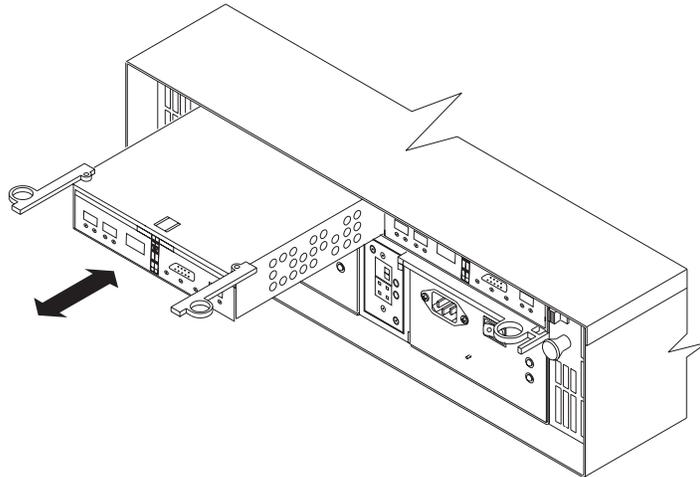

Figure 66. Installing a new RAID controller
20. Install the RAID controller, as shown in Figure 66.